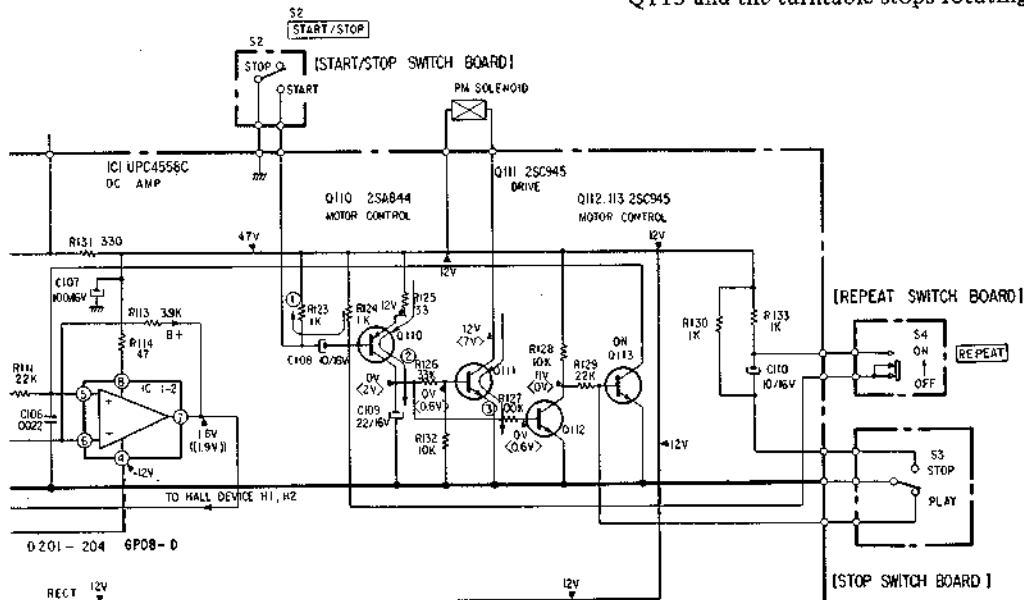

Fig. 1-16
2. STOP Operation (See Fig. 1-16)
- a. When the START/STOP switch (S2) is pushed during play, Q110 and Q111 conduct for a moment. This activates the solenoid (PM).
- d. The terminal ⑤ of IC1-2 is grounded via Q113 and the turntable stops rotating.